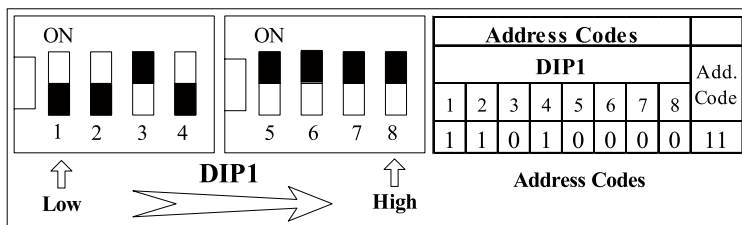

Fig.5 How to Set the Address 11
① . See the Fig.5 for how to set the address 11